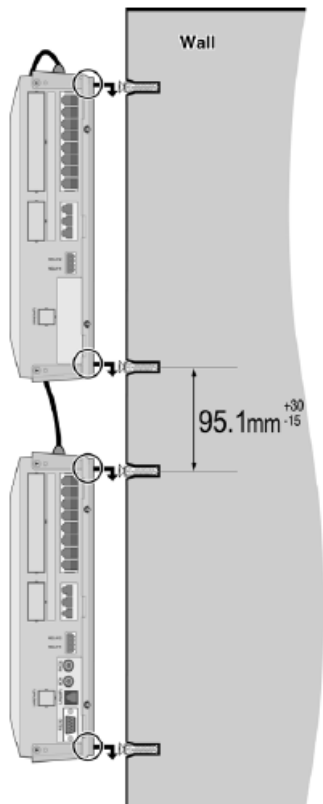

Figure 3-12 EKSU Wall Mounting
- Hook the Expansion KSU onto the installed screws, making sure that the system slides down securely (Figure 3-12.)